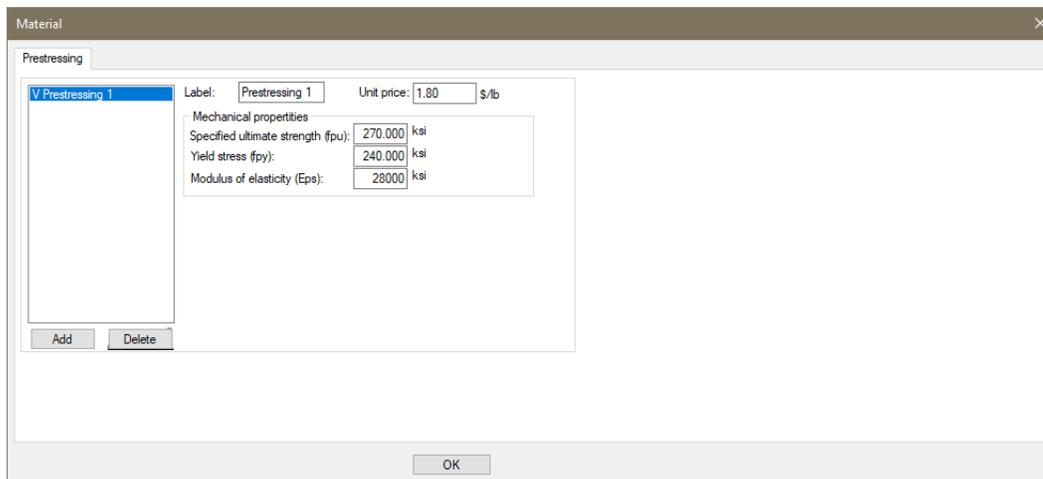

Figure 8-2
- Go to *Criteria* → *Material Properties* and click on the Prestressing  icon. This will open the *Material* window from **FIGURE 8-2**.